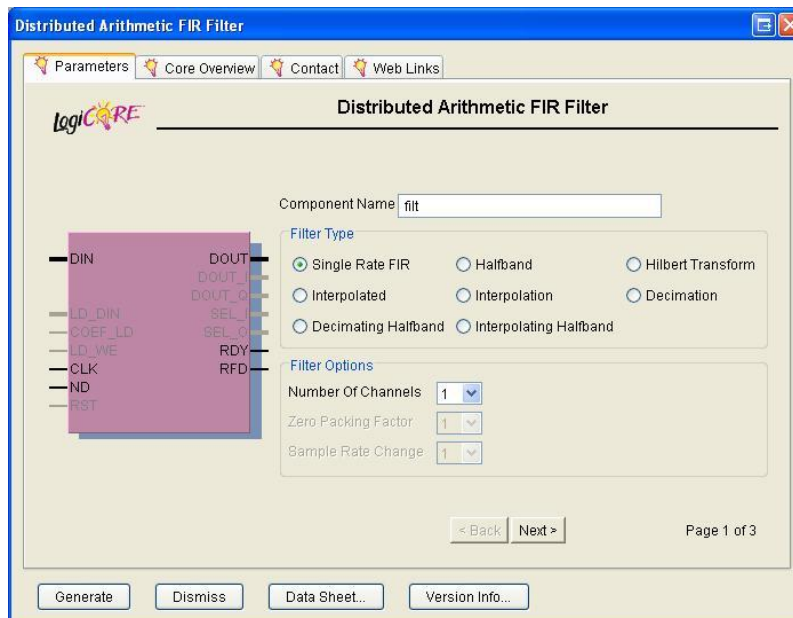

Figure 23: Step 1 of 3 Dist. Arithmetic FIR Filter
- A new dialog box should display the characteristics of the Distributed Arithmetic FIR Filter. In the **Component Name** field, type in “filt” if not already populated. For the **Filter Type**, select **Single Rate FIR**. The number of channels should be “1”. Your new Distributed Arithmetic FIR Filter page 1 of 3 should look similar to Figure 23 below. Click **Next** when confirmed.